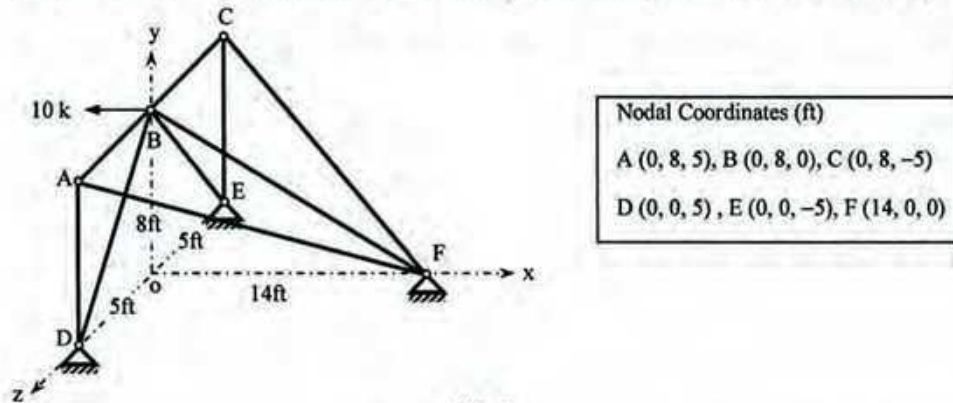

Fig. 5
5. In the three-dimensional truss shown in *Fig. 5*, ignore zero-force members and formulate the stiffness matrix, load vector and write down the boundary conditions [Given: $EA/L = 500$ k/ft].